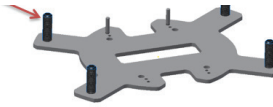

Figure 55
5.0.12) Thread in all four of the fully threaded 4" posts (see Figure 55).